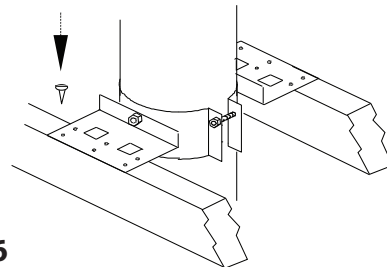

Figure 16
Step 1. **(USA ONLY)** Install the roof radiation shields in the roof joists. These shields consist of four metal plates. Nail one plate to each side of the joist using (2) 2-1/2" nails.
Step 3. Slip the assembled Roof Support down over the stainless steel chimney until its brackets rest on the roof or floor. Tighten the collar around the chimney, (see Figure 16).
Step 4. Center the chimney and nail or screw the support to the roof or floor using (8) - 2-1/2" nails or (8) N°. 8 - 1-1/4" wood screws. (Figure 16).